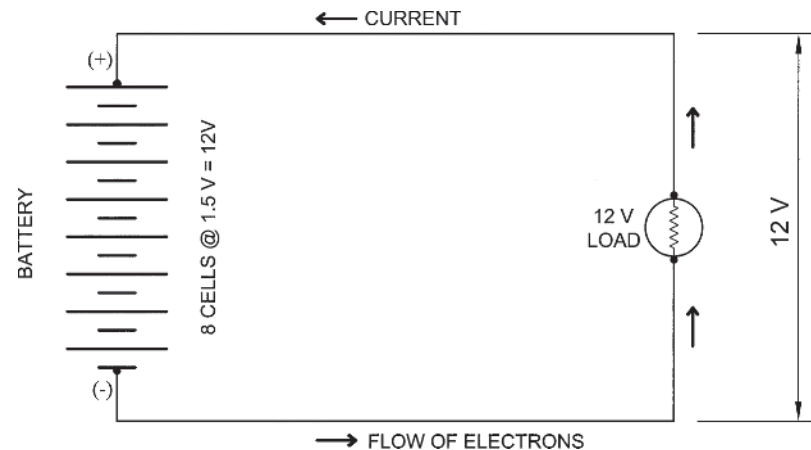

Fig. 1.8a When power producers like these cells in a battery are placed in series, their voltages are added.
Just as devices that use electricity can be placed in series or parallel circuits, so can the electric power producers such as generators, batteries, fuel cells, and photovoltaics (PV). The generators of the national power grid are in parallel, whereas in flashlights we usually have two or three batteries in series. If the power producers are placed in series, their voltages are added (Fig. 1.8a), and if they are placed in parallel, their currents (amperes) are added. To get the required voltage and current, a combination of series and parallel circuits is often used (Fig. 1.8b).